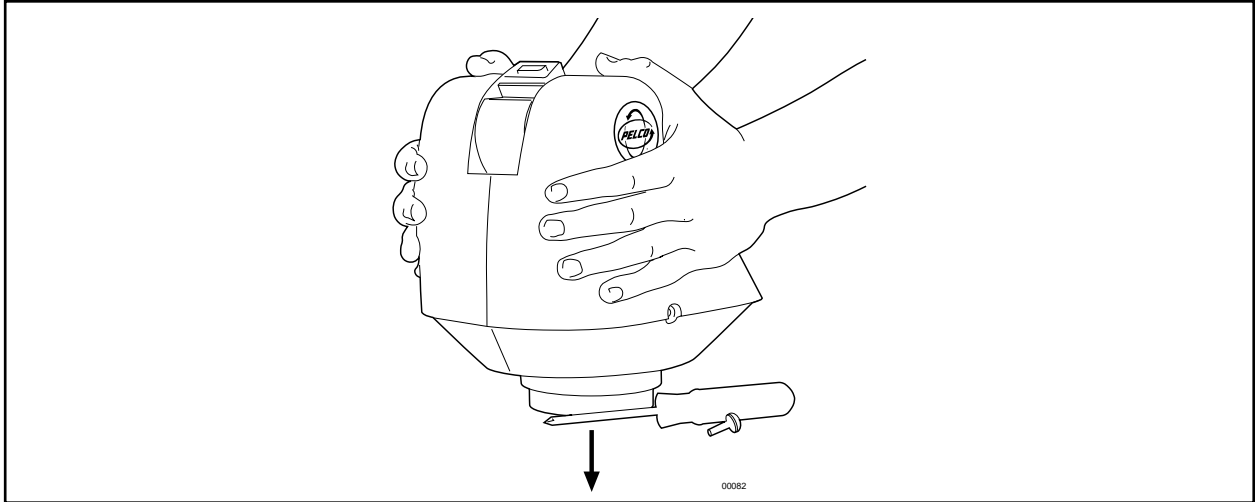

Figure 11. Securing the Cover Halves
- c. When the cover halves are together, press downward, as shown in Figure 11, to force the covers into their latches.